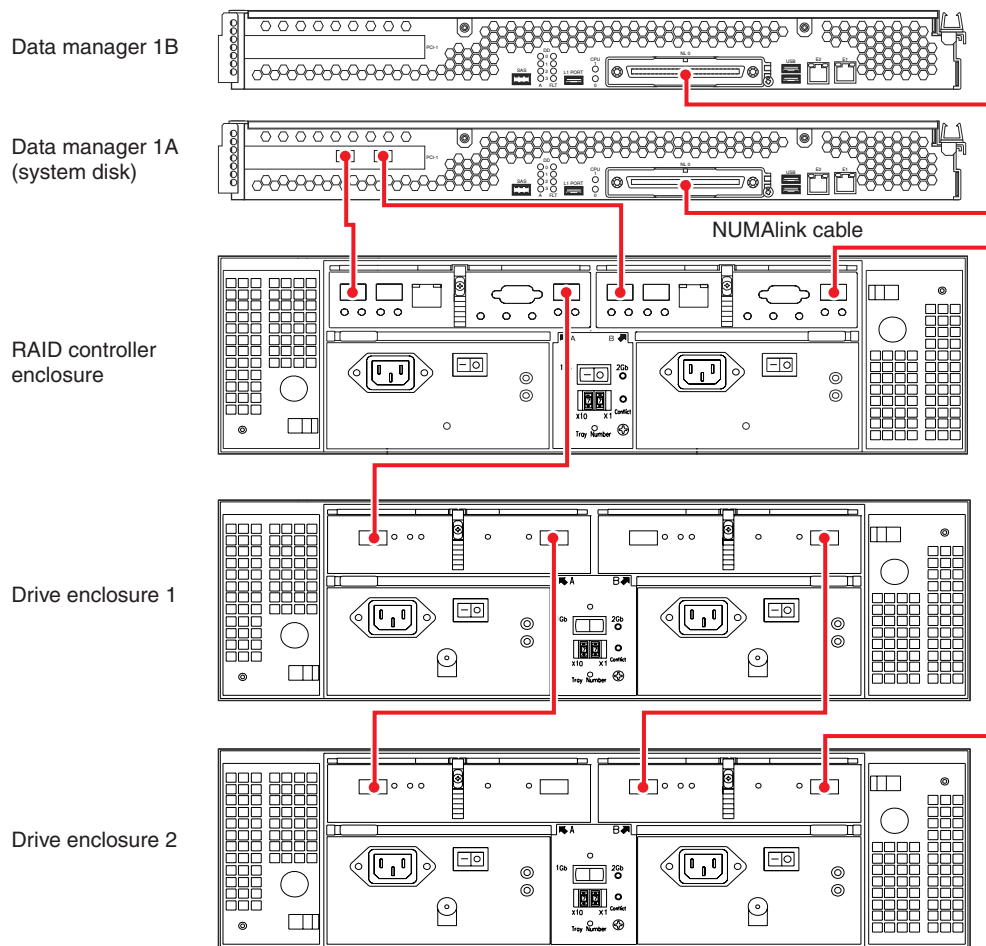

Figure 1-14 Two-Module Data Manager With One Fibre Channel Card, Dual-RAID Controller Enclosure and Two Drive Expansion Enclosures
Use the following steps and Figure 1-14 to cable a two-module single-fibre channel card data manager to a two-controller RAID enclosure and two disk expansion enclosures.
1. Connect Data Manager 1A's Fibre Channel PCI card port A (blue label [1A]) to RAID controller A's port 1 (blue label [1A]) on the left side of the RAID enclosure, see Figure 1-14.